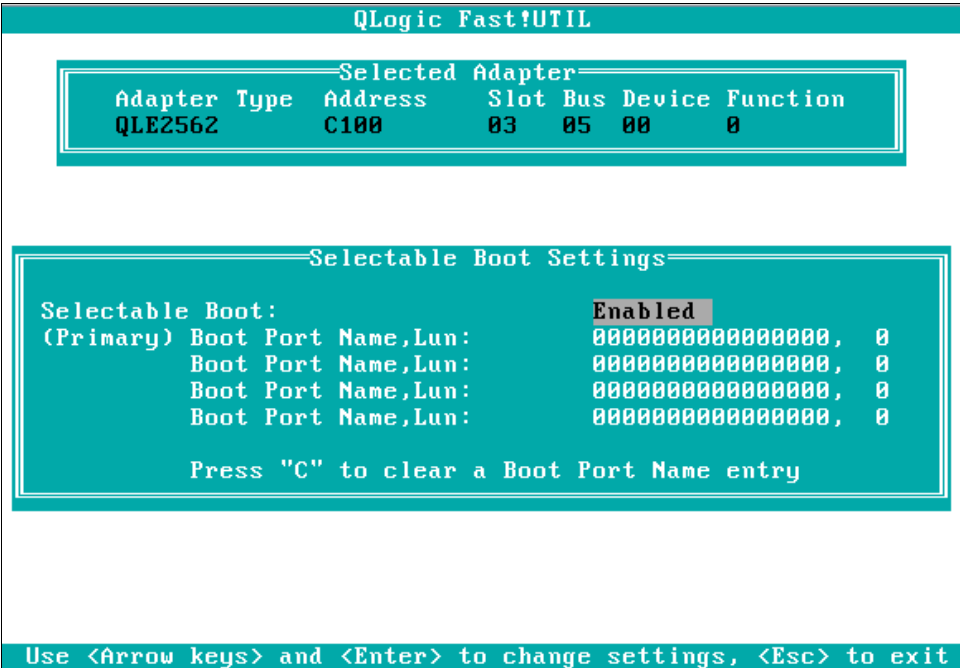

Figure 5-51 Enable Boot
9. Change *Selectable Boot Settings* to **Enabled**, as shown in Figure 5-51.